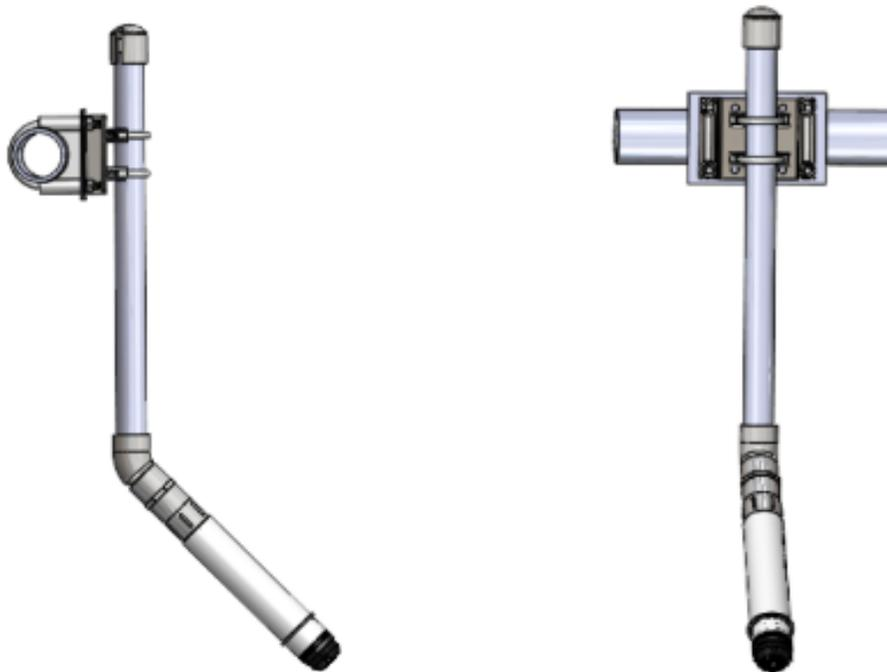

Figure 4
7. Place washers and nuts onto the threaded rod protruding from the sensor cap (Figure 4) until they are touching the sensor cap. This will ensure that the sensor assembly does not push back once the valve is opened.